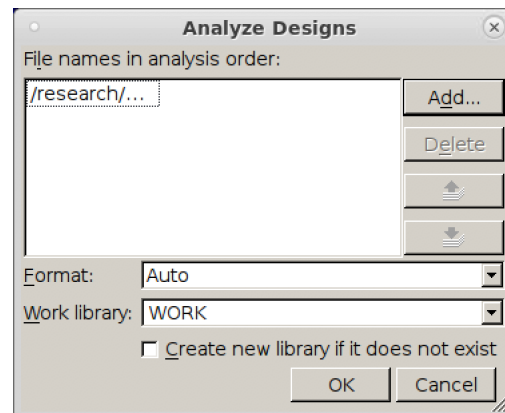

Figure 2: Analyzing the Design
2. Click on the *Add...* button, as shown in Fig 2 to select the Verilog file of the 8-bit microprocessor (*mips.v*). It is located in the *HDL/RTL* folder.
2. Select the top module of the verilog netlist: *Processor*, as shown in Fig 2.